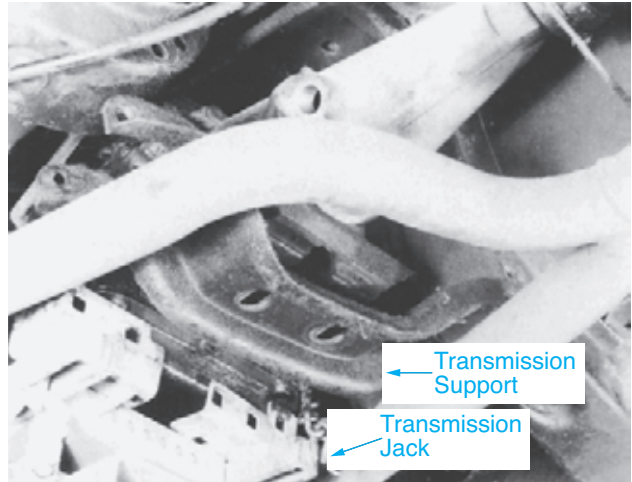

FIGURE 8-15 A transmission jack has been positioned under this transmission before removing the mount/insulator and transmission support.
5. Position a transmission jack to support the transmission. Remove the transmission support bolts, raise the transmission slightly, and remove the transmission support. In some cases, it may also be necessary to remove the cross-member (Figure 8-15).